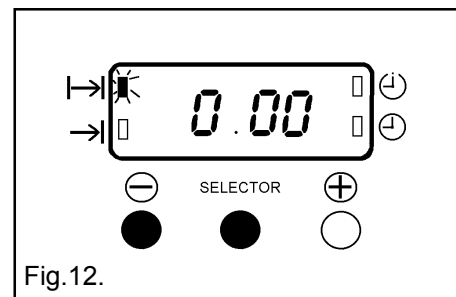

Fig.12.
- i) To cancel an automatic programme press the Selector Control button until the 'Cook Time' indicator (|→|) neon flashes. Press the decrease control (⊖) until the display reads 0.00 as Fig. 12.